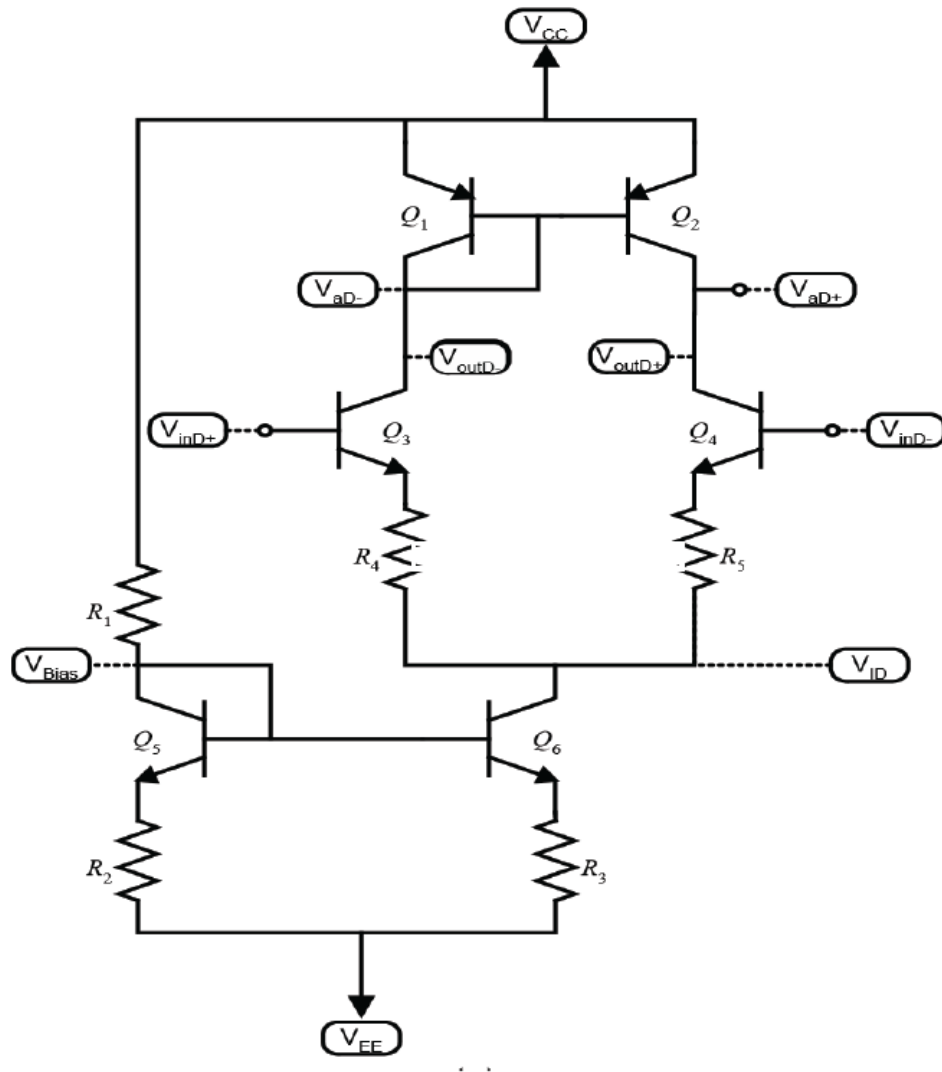

Figure 3.1: Differential Amplifier with active load.
The circuit shown in Figure 3.1 is an active load differential amplifier configuration. It is to be biased
6. Design the circuit of Figure 3.1 in order to obtain a gain of 250 V/V $\pm 10\%$. Determine the